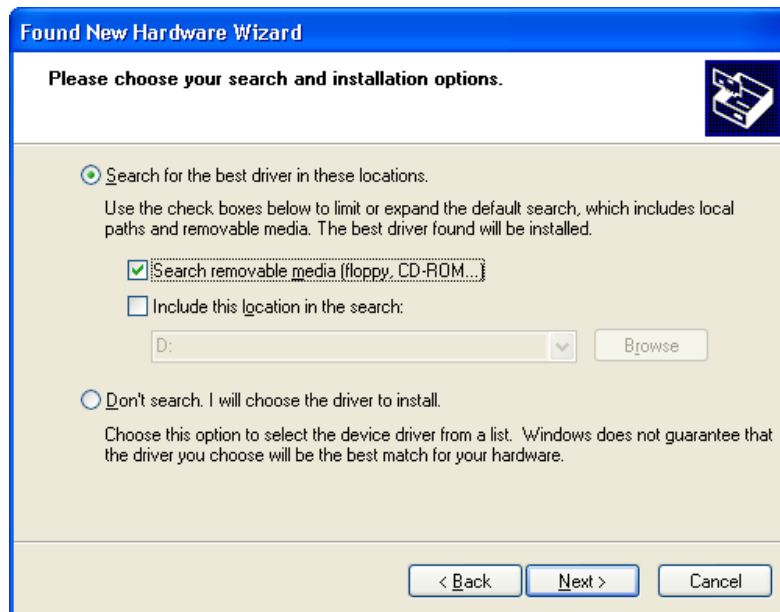

Figure 3. Found New Hardware Wizard Window #3
- At the “Found New Hardware Wizard” window (Figure 3), select “Search for the best driver in these locations” followed by “Search removable media (floppy, CD-ROM...)”. Click Next.